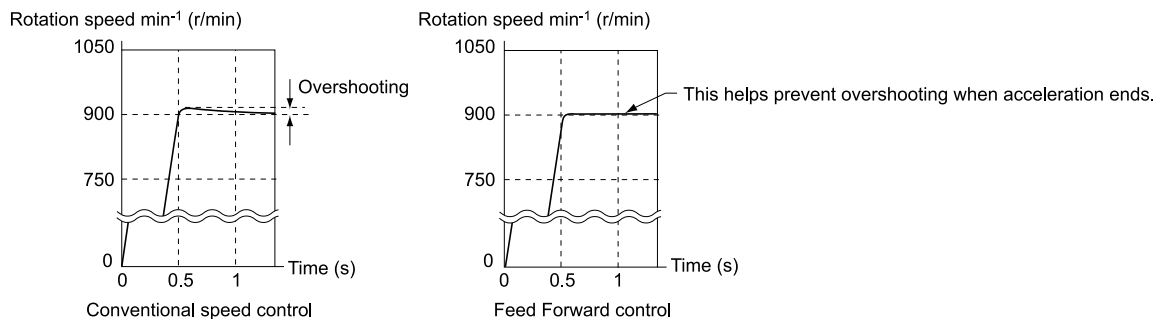
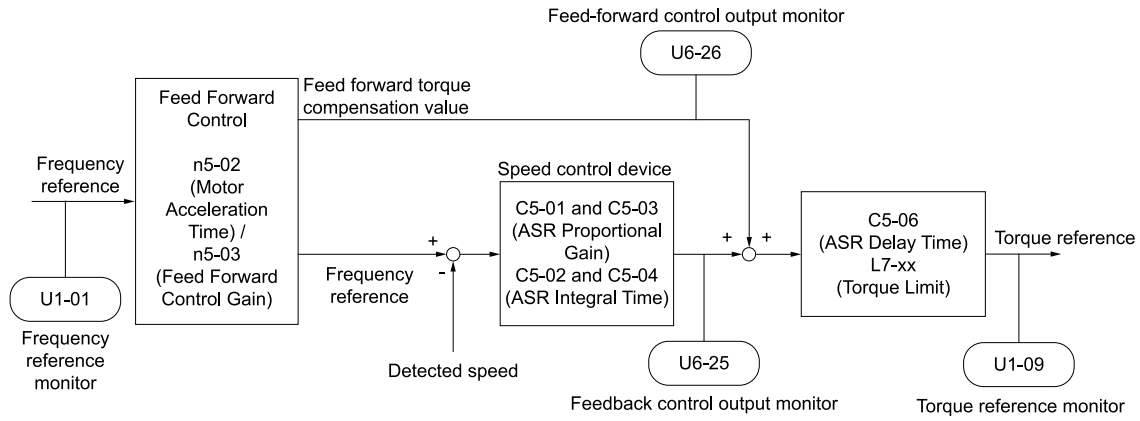

Figure 11.147 Suppress Overshooting with Feed Forward Control
Figure 11.148 Configure Feed Forward Control
Increasing the values set in $C5-01$ and $C5-03$ [*ASR Proportional Gain*] is effective in applying feed forward control to machines with low rigidity for which hunting and vibration are likely to occur or to machines with significant inertia. Applying this function while using CLV control also helps prevent overshooting. Refer to Figure 11.147 for details. Refer to Figure 11.148 for more information on parameters related to feed forward control.
- If Inertia Tuning cannot be performed, refer to Figure 11.148 and set the parameters related to feed forward control individually.